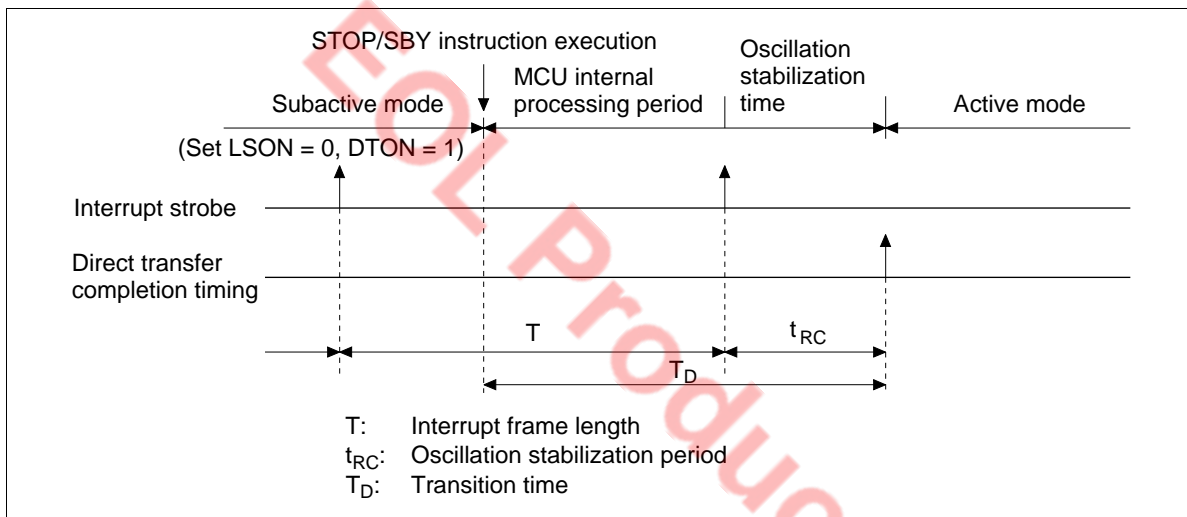

Figure 19 Direct Transition Timing
- The MCU automatically enters active mode from subactive mode after waiting for the MCU internal processing time and oscillation stabilization time (figure 19).